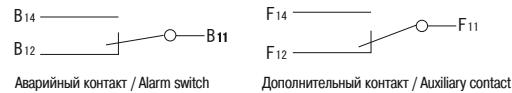

Рисунок 2 – Схема электрическая устройства / Figure 2 – Electrical diagram of the device
The electrical diagram of the device is shown in figure 2.
- Perform electrical connection of the device according to figure 2 and table 2;
- Using a multimeter, check the state of contacts according to figure 2 and table 2 in the actual MCCB "TEST" position, in the "OFF" position and in the "ON" position.